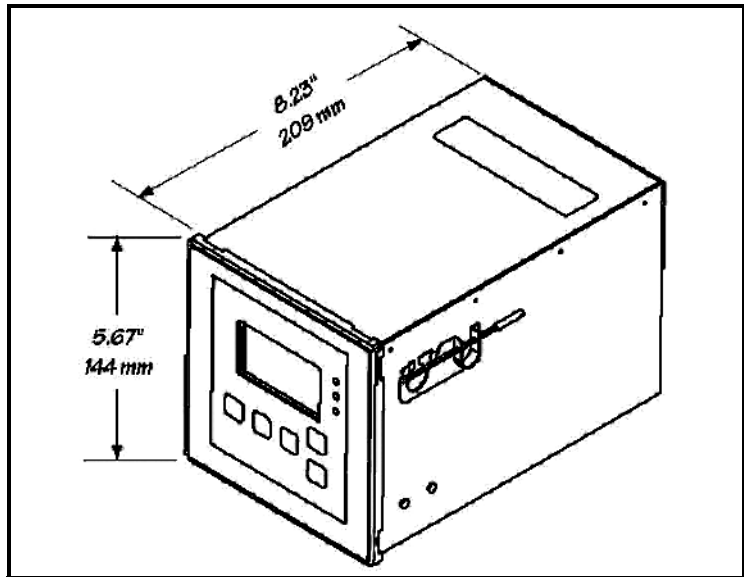

Figure 1-8: MR2350 Panel Mount Version
3. From the rear side of the panel, slide the two mounting clamps into place on each side of the unit (see Figure 1-8 on page 1-8).